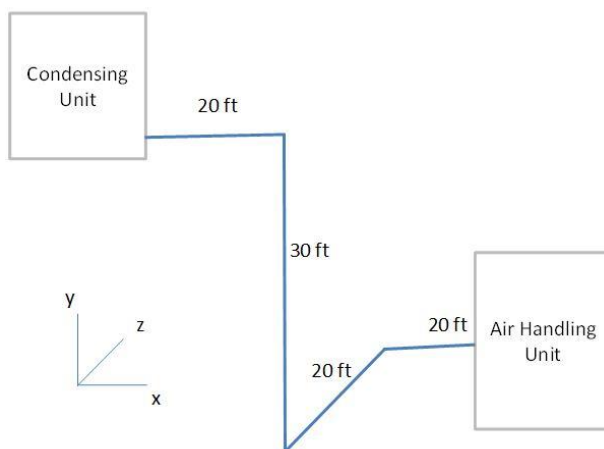

Figure 157 - Isometric Suction Line Sketch
8. Enter the total quantity of 90 degree elbows. The EES Toolkit calculator uses the 90° long radius values from the Crane Handbook (see **Table 11** - Equivalent Length Table) to calculate the equivalent length of the bends. Typically all lines run the same route so the quantity of elbows would be the same for all lines. The exception is when the suction line has oil traps every 20 feet when the suction flow is up, or on heat pump units when the discharge line has oil traps every 12 feet when the discharge flow is up. Each oil trap will include four 90° long radius bends. From **Figure 157**, if suction is up, enter Quantity = 7